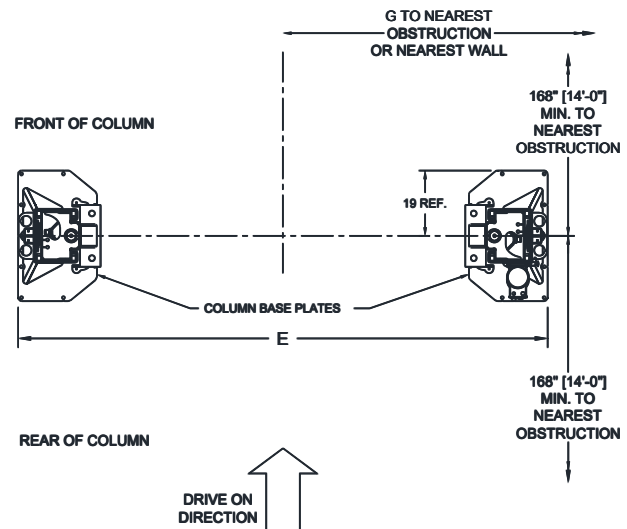

Fig. 1b- Service Bay Layout
- See **Fig 1** for the lift layout. Determine which side of the bay that the power unit will be on and identify the column assembly with the power unit bracket. Layout the service bay according to the architect's plans or owner's instructions (**see Fig. 1b**). Failure to install in this orientation can result in personal and property damage. Be certain that the proper conditions exist, see pg. 3.